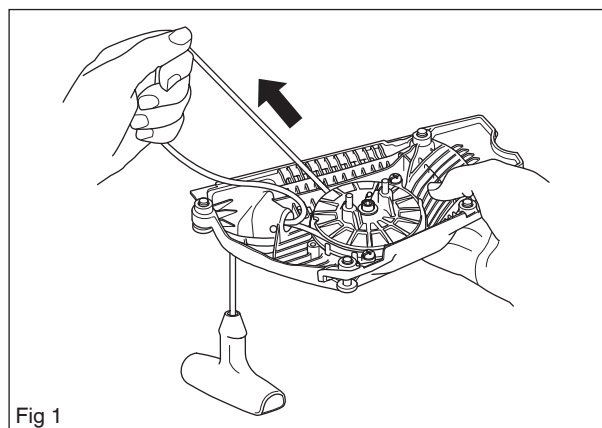

Fig 1
2. Pull the cord out about 30 cm and lift it into the notch on the outside of the starter pulley. Release the tension in the return spring by letting the starter pulley rotate anti-clockwise. See figures 1 and 2.